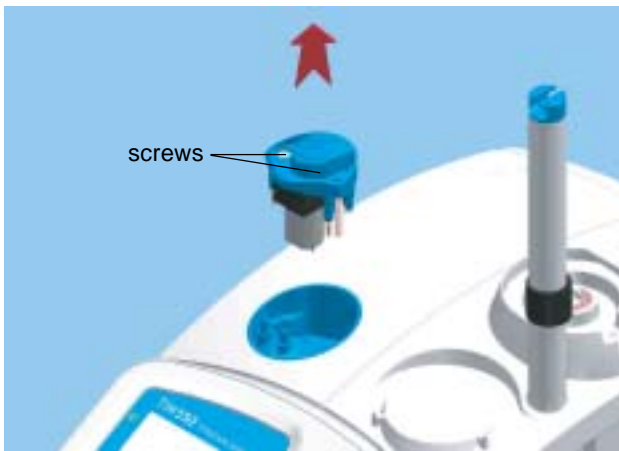

Figure 1: Dismounting the pump module
3. Lift out the pump, see figure 1 below.